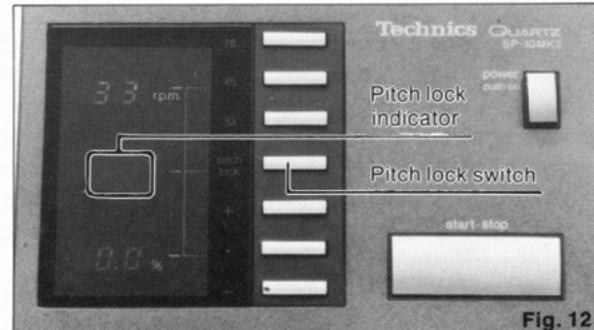

Fig. 12
■ About the pitch control function (Fig. 12)